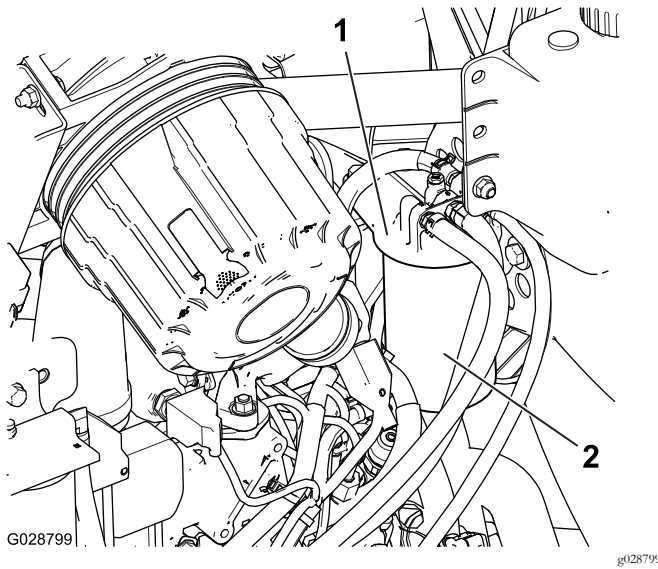

Figure 45
1. Clean the area around the fuel-filter head (Figure 45).
2. Remove the filter and clean the filter head mounting surface (Figure 45).